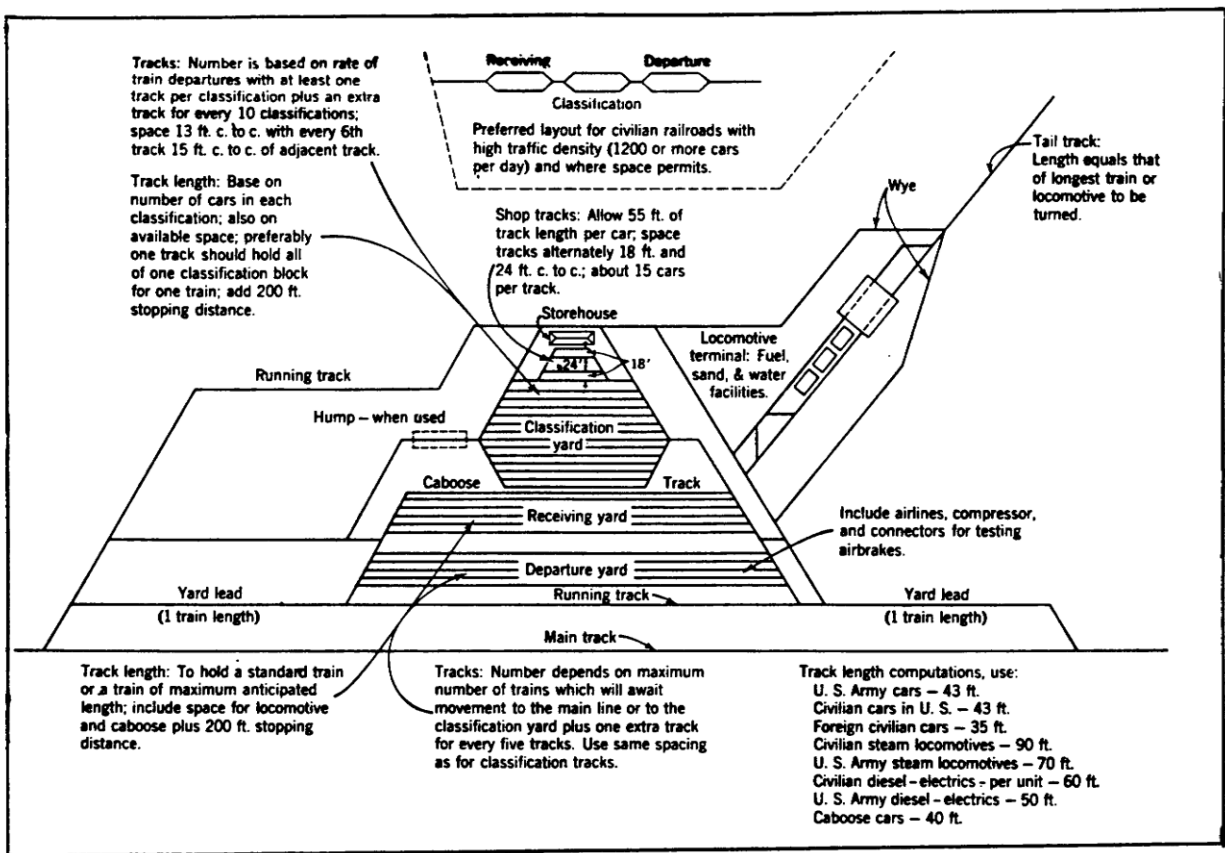

Figure 1-4. General Layout of a Major Marshaling Yard.
NOTE: To identify a receiving yard, you should compare it against the classification yard (Figure 1-4). Furthermore, the yard that does not have a switch engine is the receiving yard.
2. Classification yards. Classification yards are where trains are broken down and reformed into other trains. After the cars have been broken down, they are moved into the forwarding yard to await departure (Figure 1-4).
a. The forwarding yard is where a newly madeup train is sent after leaving the classification yard. The train is either held for departure or sent right out to another part of the country. Number of tracks depends on maximum number of trains which will await movement to the main line or to the classification yard plus one extra track for every five tracks (Figure 1-4).